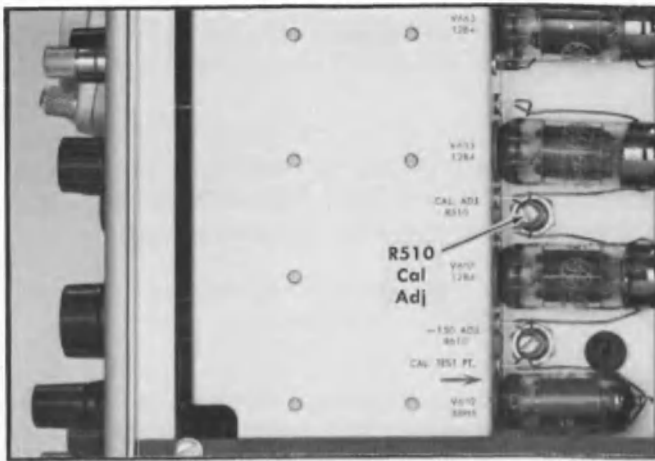

Fig. 5-20. Location of calibrator amplitude adjustment (right side).
g. ADJUST—Cal Adj, R510 (see Fig. 5-20), for no difference between the standard amplitude calibrator output level and the Type 310A calibrator output level.